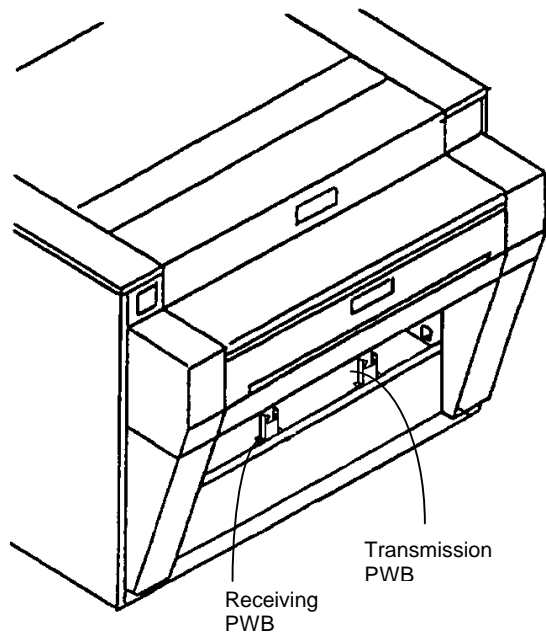

Figure 3. PWB Removal
8. (Figure 3): Disconnect the connectors from the Transmission and Receiving PWBs.